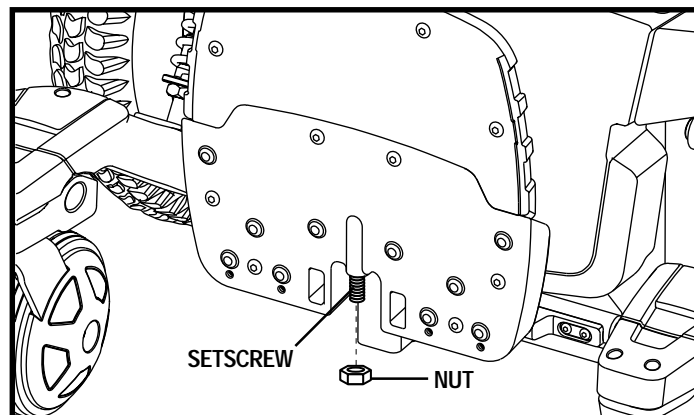

Figure 21. Underside of Foot Platform
1. Flip up the foot platform and locate the setscrew. See figure 21.